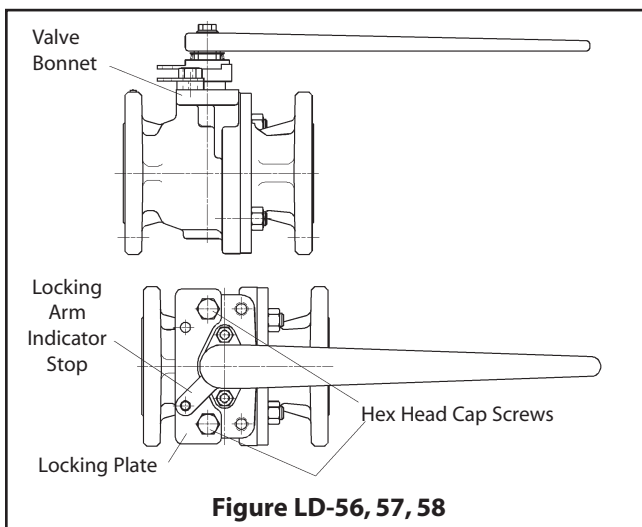

Figure LD-56, 57, 58
2. Place the locking plate on the valve bonnet under the locking arm of the indicator stop (see Figure LD-56, 57, 58). Install the two hex head cap screws from the kit, and torque to values listed in (Table 2).